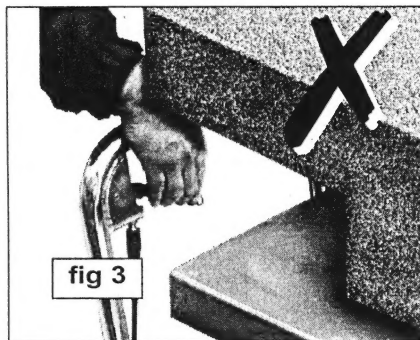

fig 3
- ☐ **WARNING!** Ensure the load will not foul on anything, and is clear of your hands and the handle when lowering (fig 3).